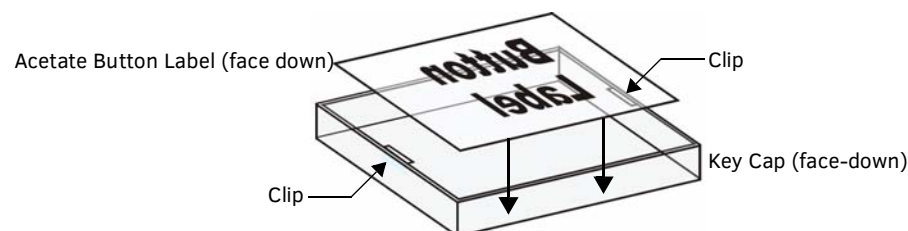

FIG. 29 Placing a Button Label inside a Key Cap
2. Place the Key Cap face-down, and insert the Button Label into the bottom of the Key Cap (FIG. 29).
- Orient the Button Label inside the Key Cap so that the two clips are located on the left and right sides of the readable text on the Button Label, as indicated in FIG. 29.
- Be sure to place the Button Label face-down inside the Key Cap (see FIG. 29), otherwise the label will be seen in reverse once the Key Cap is installed.